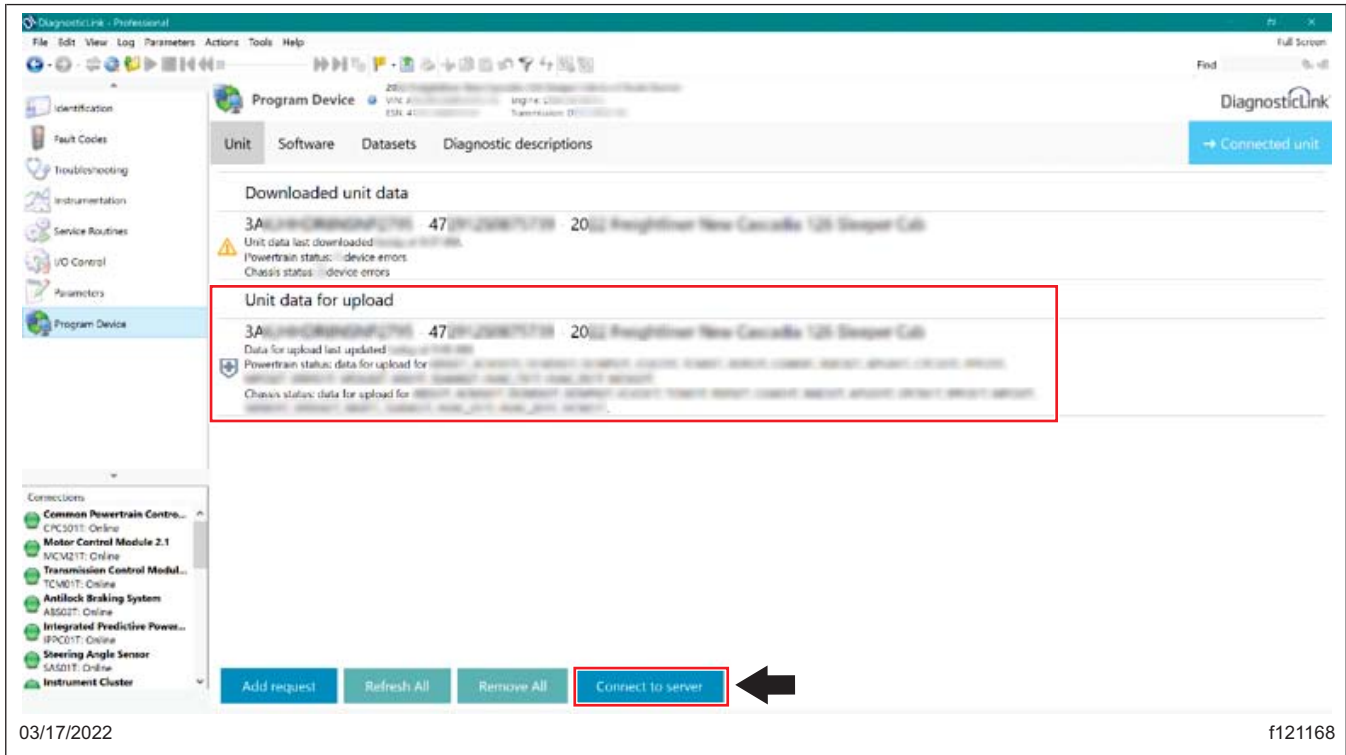

Fig. 27, Uploading the New Parameters
- The information corresponding to the VIN should appear under 'Unit data for upload.' Select 'Connect to server' to upload the new parameters. See Fig. 27.